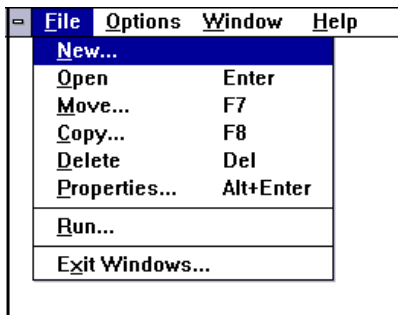

Figure 3-9.
- ☑ 3. **CLICK** on FILE or press ALT + F (see Figure 3-9)